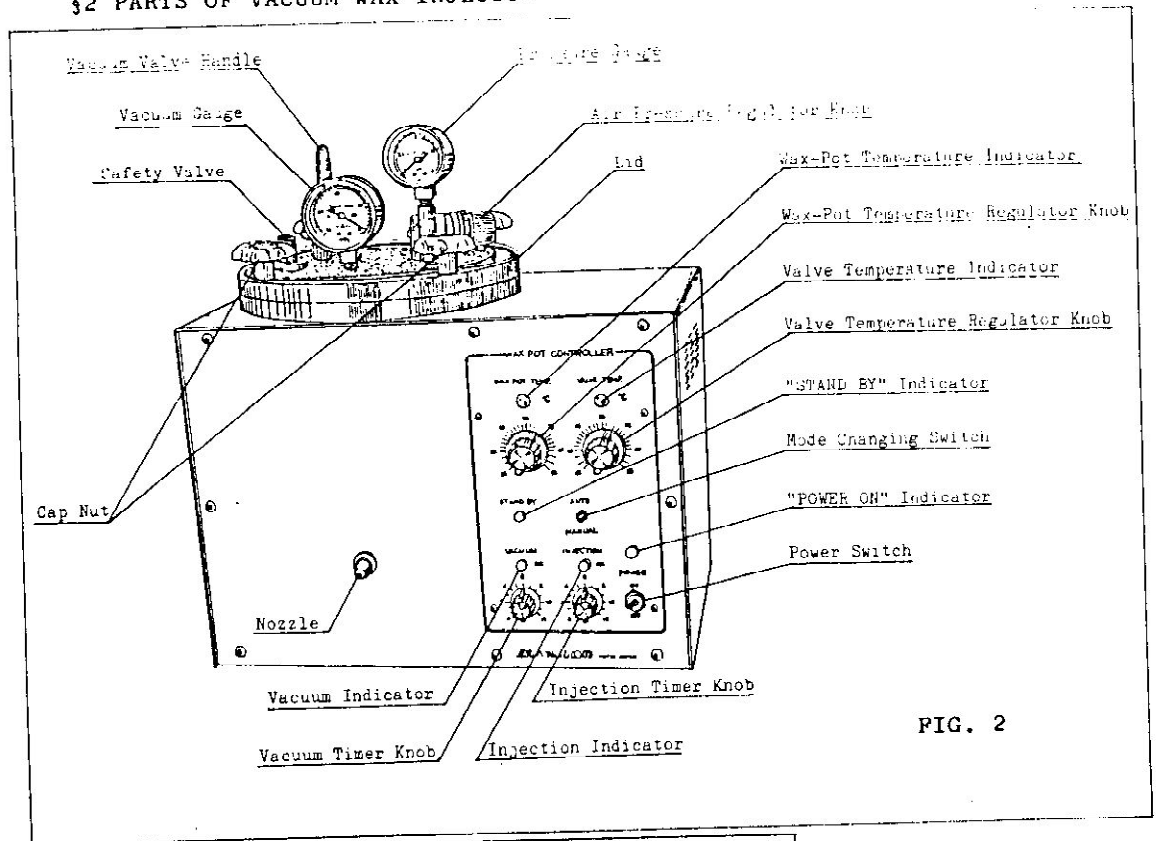

FIG. 2
- (1). Slowly reduce the vacuum pressure within the Vacuum Chamber by lowering the Vacuum Valve Handle from a vertical position to a horizontal position.
- (2). Reduce air pressure to zero with Air Pressure Regulator Knob (FIG.2). Make sure the Pressure Gauge reads "0" (zero).
- (3). Unscrew and remove the four Cap Nuts shown in FIG.2 on the top of the Injector.
- (4). Lift the Lid (FIG.2) and remove it from the Injector.
- (5). Place a fresh supply of wax in the outer Wax-Pot chamber.
- (1). Flip the Power Switch (FIG.2) on the Wax-Pot Controller Panel to ON.
- (2). Turn the Wax-Pot Temperature Regulator Knob (FIG.2) to the temperature required for the wax being used.
- (3). When the Wax-Pot Temperature Indicator goes off and on repeatedly, it is an indication that the set temperature of the pot has been reached. However, it does not necessarily mean that all the wax has been completely melted. Once the pot is up to temperature, allow time before injection to be sure that all of the wax is melted.